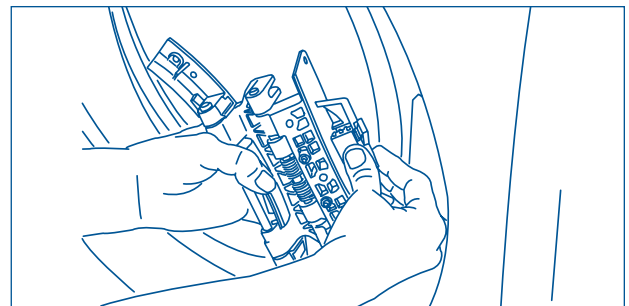

Figure 2-21.
2. Connect the harness to the hinge retainer by inserting it in the retention terminal and gently pushing until you hear the fastening tab click. (See Figure 2-21)